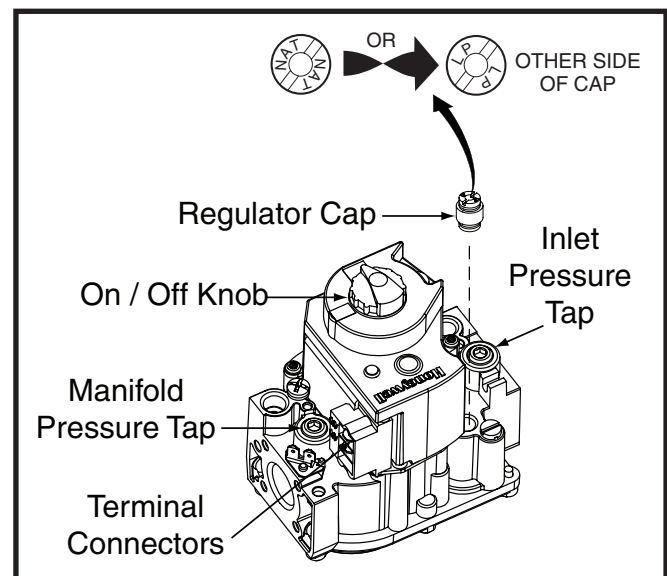

Figure 13. Gas Valve
Converting single stage valves to LP/Propane requires the replacement of the burner orifices and flipping the regulator cap to the side marked LP. The end facing up should now read LP. See Figure 13.
2. Using a 3/16" Allen wrench, remove the plug from the inlet pressure tap (INLET side of gas valve). See Figure 13.
4. Turn the gas valve ON/OFF knob to the ON position. See Figure 13.
3. Using a 3/16" Allen wrench, remove the manifold pressure tap plug located on the outlet side of the gas valve. See Figure 13.